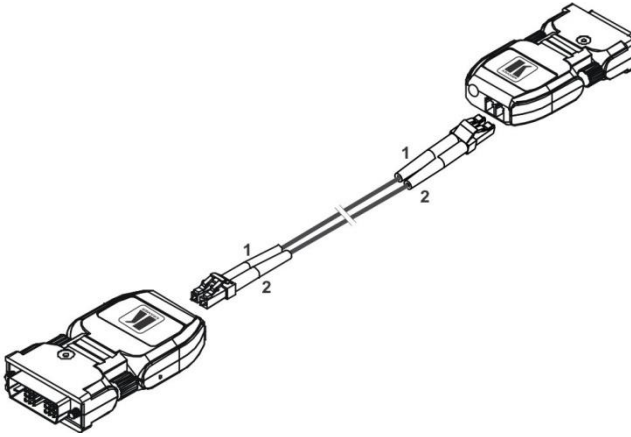

Figure 3: Connecting the Fiber Optic Cables
3. Connect the duplex LC fiber cables to the **602T** and **602R** modules, one cable at a time, as illustrated in Figure 3.
4. Plug the **602T** DVI connector **directly** to the DVI connector of the computer. Do not use any intermediate cable or adapter between them, and connect cables 1 and 2 as indicated in Figure 3